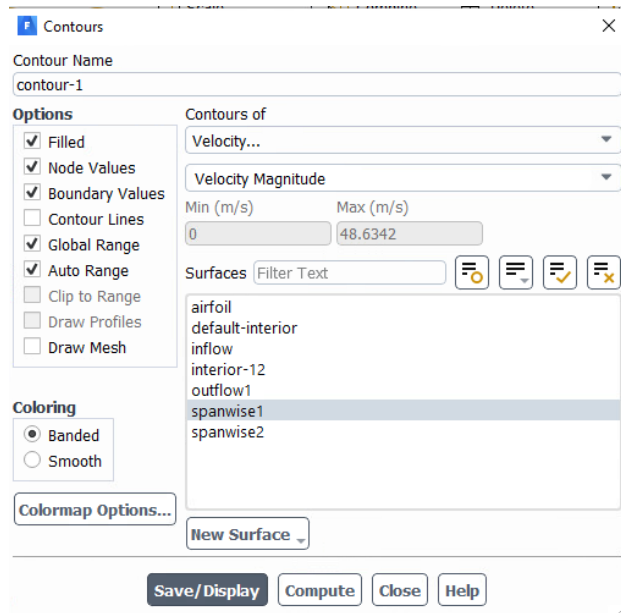

Figure 30. Velocity contour option window
6.1.2. In the Contours window (see Figure 30) set the Contours of textbox to “Velocity ...” and the dropdown menu to “Velocity Magnitude”. The default settings for the other options should be as shown in Figure 30.